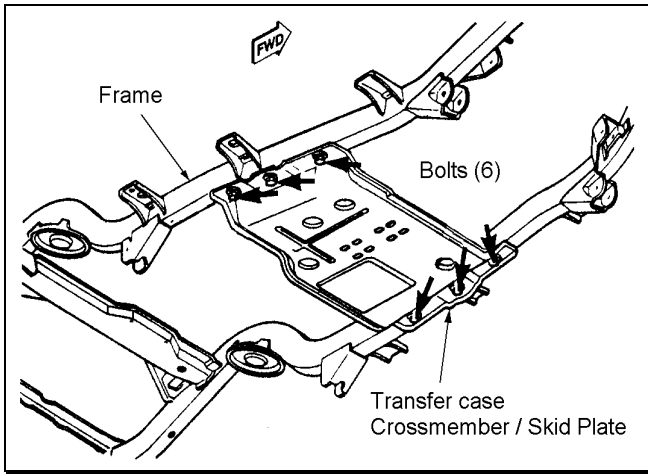

Figure 16
- 1) Place the transmission in neutral. Support the transfer case crossmember/skid plate with a hydraulic jack. Loosen the 6 bolts holding the crossmember to the frame. See figure 16. Do not use an impact gun.